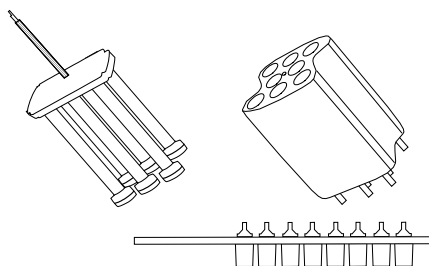

Figure F.1.2: Components to be Autoclaved
4. Place all components (see Figure F.1.2) into the autoclave and autoclave at 121 °C for 20 minutes.